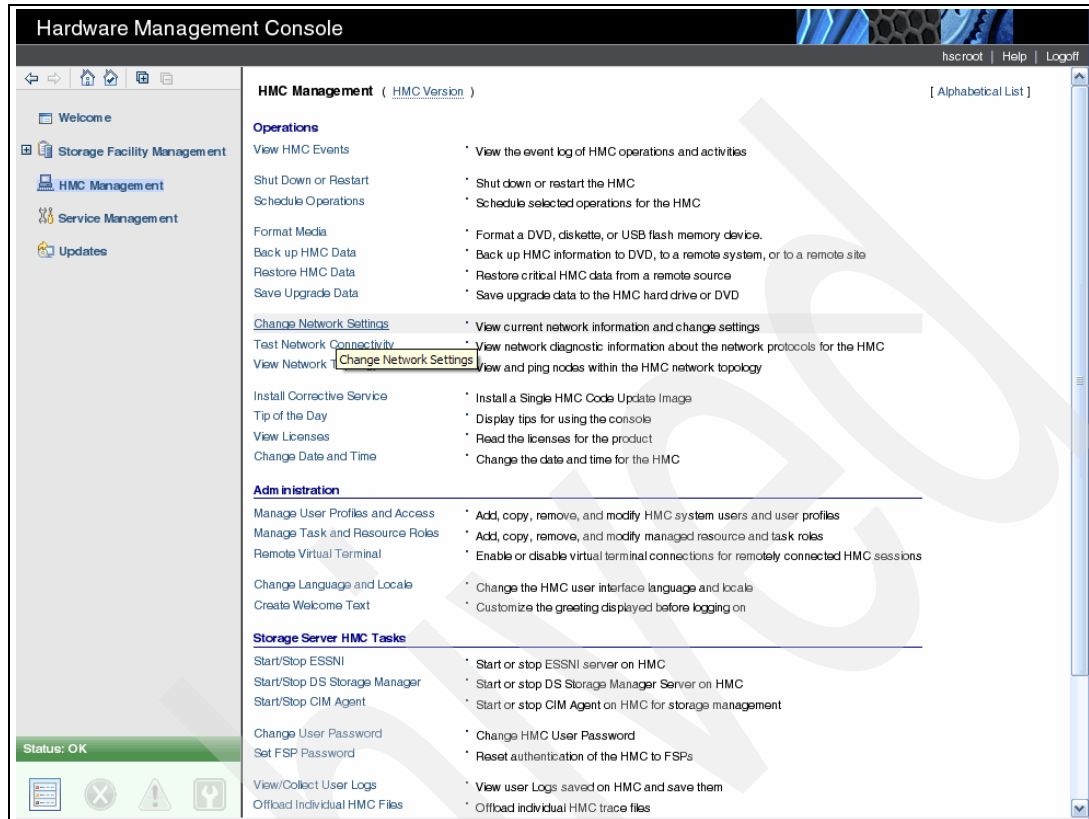

Figure 9-8 WebUI HMC management window
3. In the HMC Management window, select **Change Network Settings**, as shown in Figure 9-8.